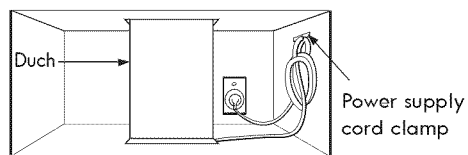

Figure 35
6. Use power supply cord clamp to bundle the power supply cord. Install the power supply cord clamp, using a screw as shown in **Figure 35**, to inside of the cabinet.